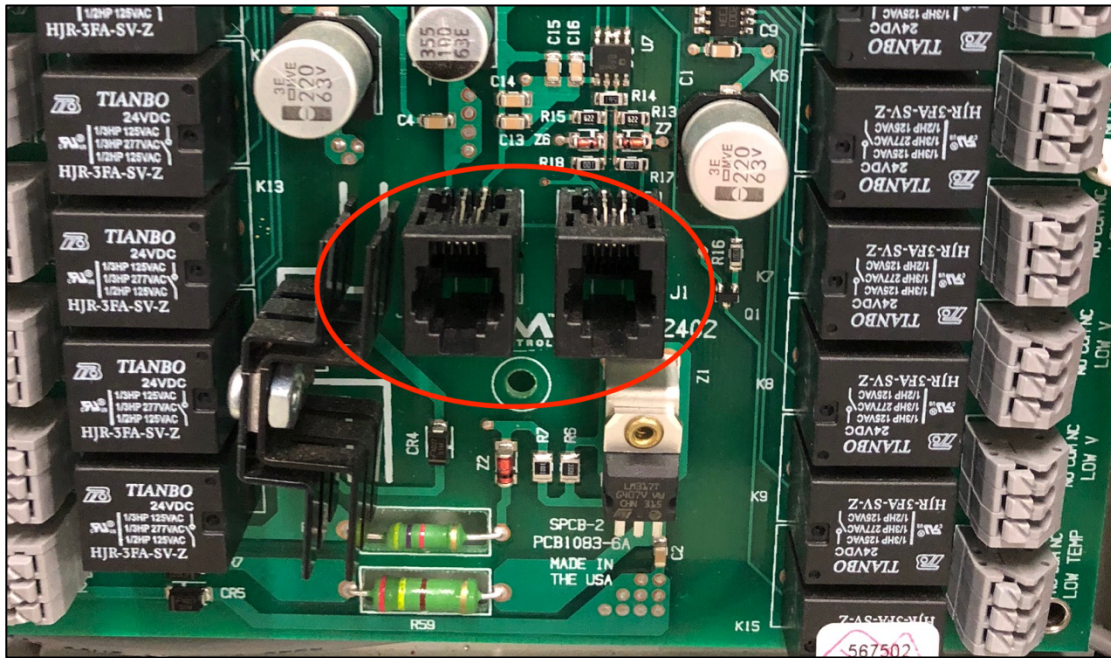

Figure 3: CommStat™ 4 to Modbus Interface Adapter Connection
- Remove the lower cover from the CommStat 4 controller. Plug the RJ11 connector on the flat, black CommStat 4 communications cable into one of the two Master communications ports at the middle, bottom of the CommStat 4 circuit board. Note that if the shelter has two CommStat 4 controllers, one of these ports may already be used for the master/slave connection. Reinstall the lower cover of the CommStat 4 controller. See Figure 3.